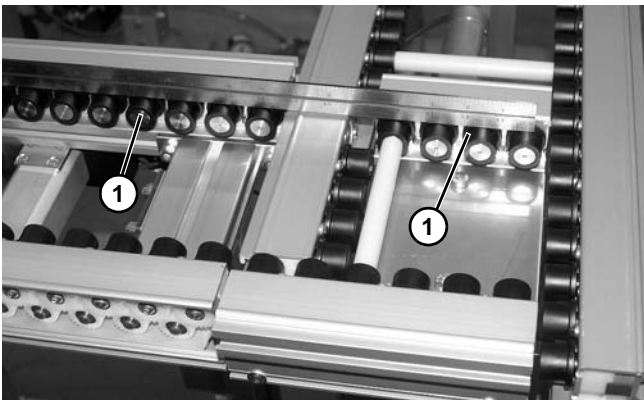
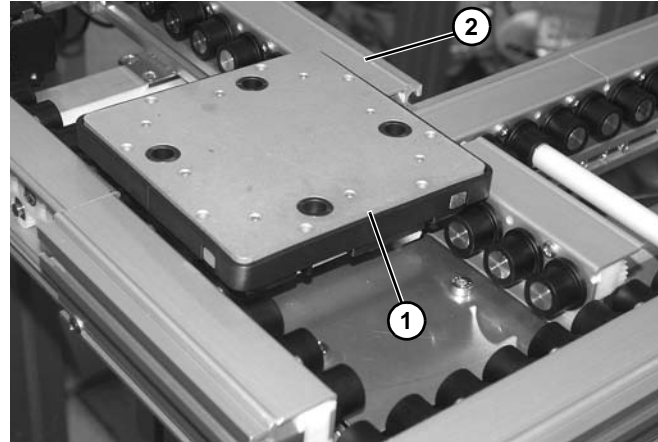

Figure 37
Figure 38
1. Adjust stroke so that rollers (**Figure 37, item 1**) are level, and pallet (**Figure 38, item 1**) mates correctly with sending/receiving conveyor (**Figure 38, item 2**).